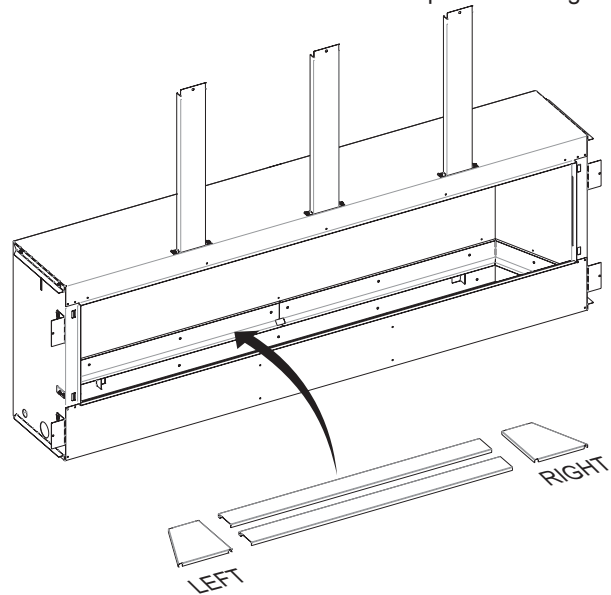

Figure 44
11. Install the burner screens as shown in Figure 44. If installing an optional log set, refer to the log set instruction manual for placing the log pins into the burner screens.